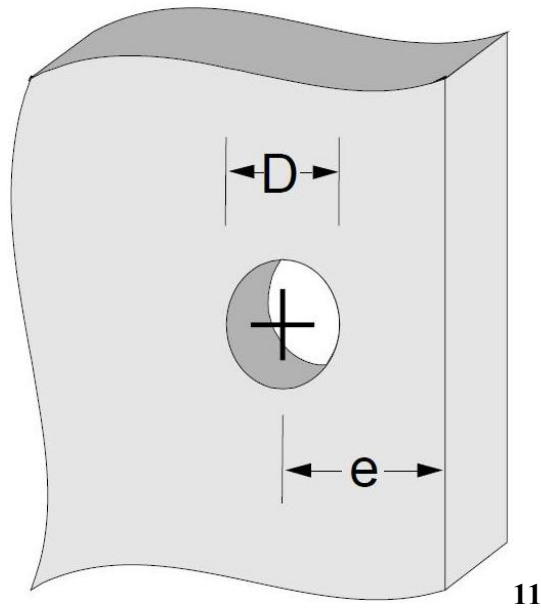

Figure 3.5-1
Minimum edge margin is the ratio of the distance from the edge of the structure (e) to the diameter of the hole (D), as shown in Figure 3.5-1. Effective bushing installation and arresting crack growth is limited to $e/D=1$.